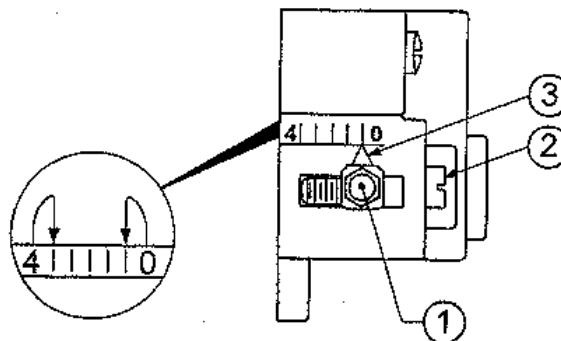

Figure 7D: Turbulator Setting
- f. Turbulator Setting, refer to Figure 7D.
- ii. Loosen nut (1) and turn screw (2) until the index marker (3) is aligned with the correct index number in the Burner Setup Chart (Table 6).